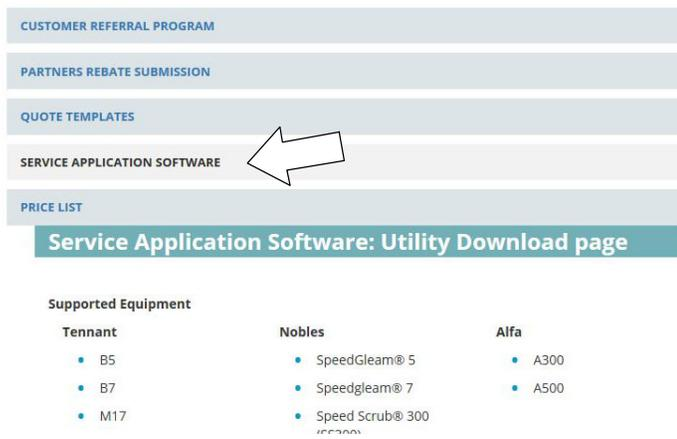

Fig. 26
3. Click on the “SERVICE APPLICATION SOFTWARE” link as shown below (Figure 26).